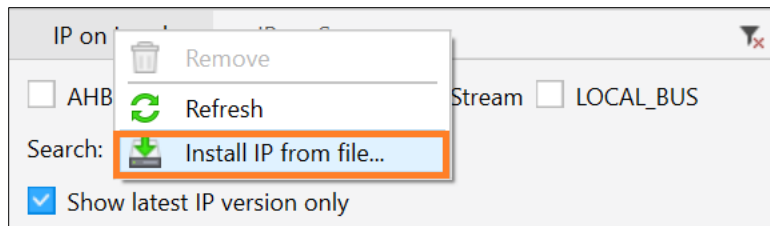

Figure 5.10. Install IP from File
- a. Right-click **IP on Local** and select **Install IP from file...**, as shown in Figure 5.10.